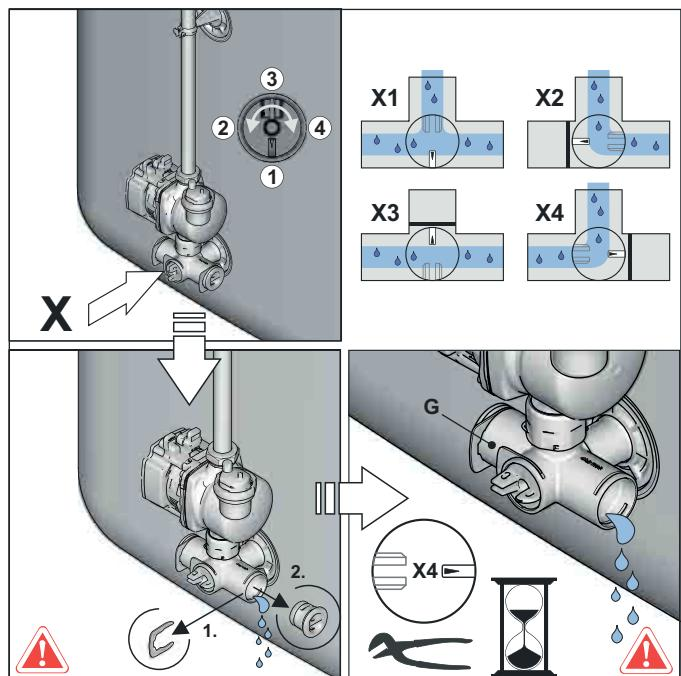

Fig. 5-2 Shutting off the valve insert and removing the blanking plug from the connecting angle
- Adjust the valve insert on the connecting angle so that the path to the blind plug is blocked off (fig. 5-2).
- Remove the blanking plug from the connecting angle (fig. 5-2) and place a suitable collection trough beneath the unit.
- Adjust the valve insert on the connecting angle so that the flow to the drain hose is opened (also refer to fig. 5-2) and drain the water content of the storage tank.